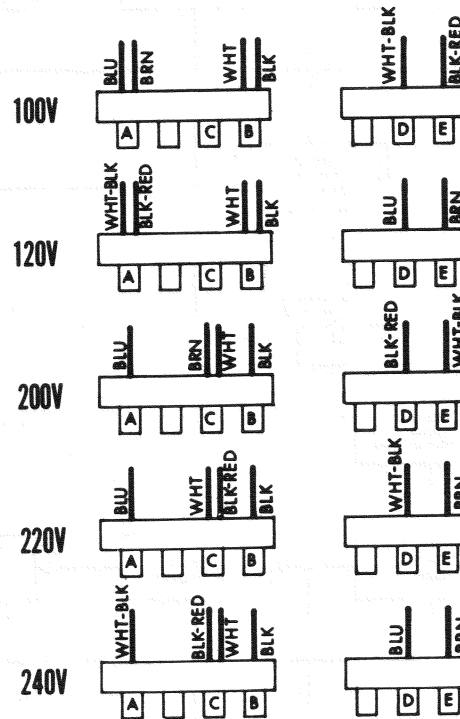

Fig. 7.20 Voltage Conversion
4. Determine the correct connection from Fig. 7.20 and solder the leads accordingly.